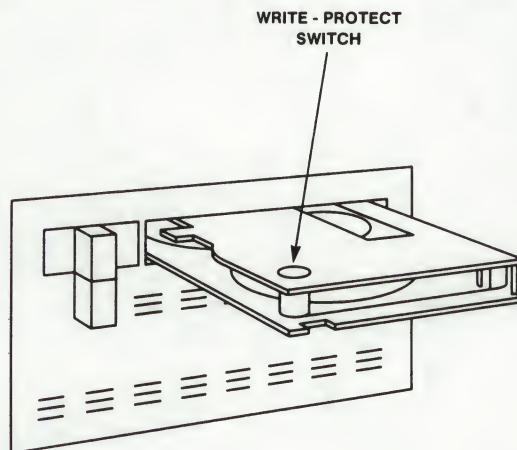

FIGURE E-3. Loading the Tape Cartridge
4. Load the tape cartridge into the tape cartridge slot as shown in Figure E-3. Push the cartridge gently into the tape cartridge slot until the cartridge engages. Push the cartridge switch to the right to lock in the cartridge.